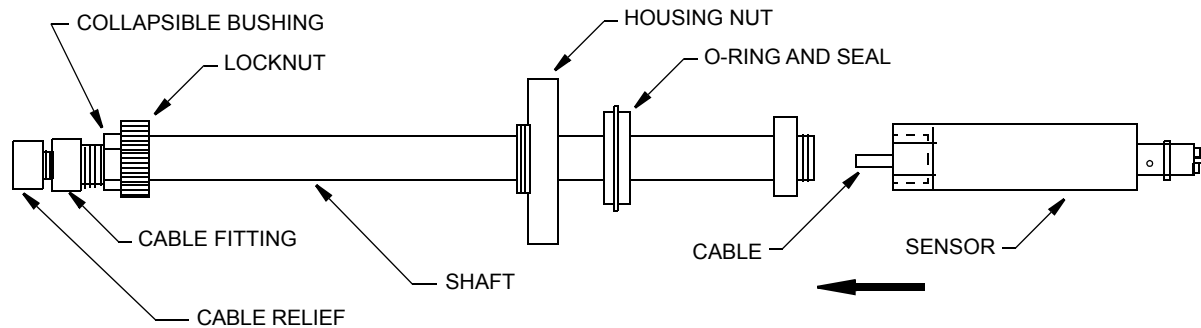

Figure 9. Insertion Shaft Assembly
2. Feed the sensor cable through the shaft assembly. Screw the shaft assembly into the end of the sensor (finger tight). See Figure 9. Do **not** overtighten.